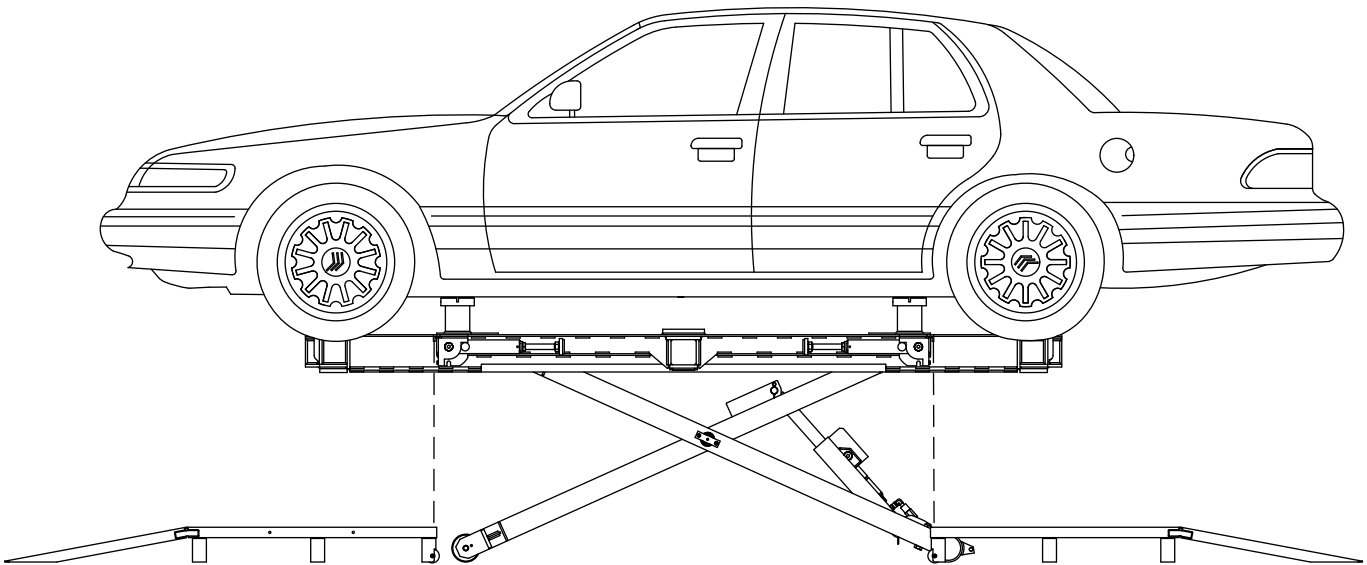

Figure 47
15. Replace the ramps and position the Ramps so the Ramp Tab on the mainframe will line up with the slot on the Ramp (see Figure 47).